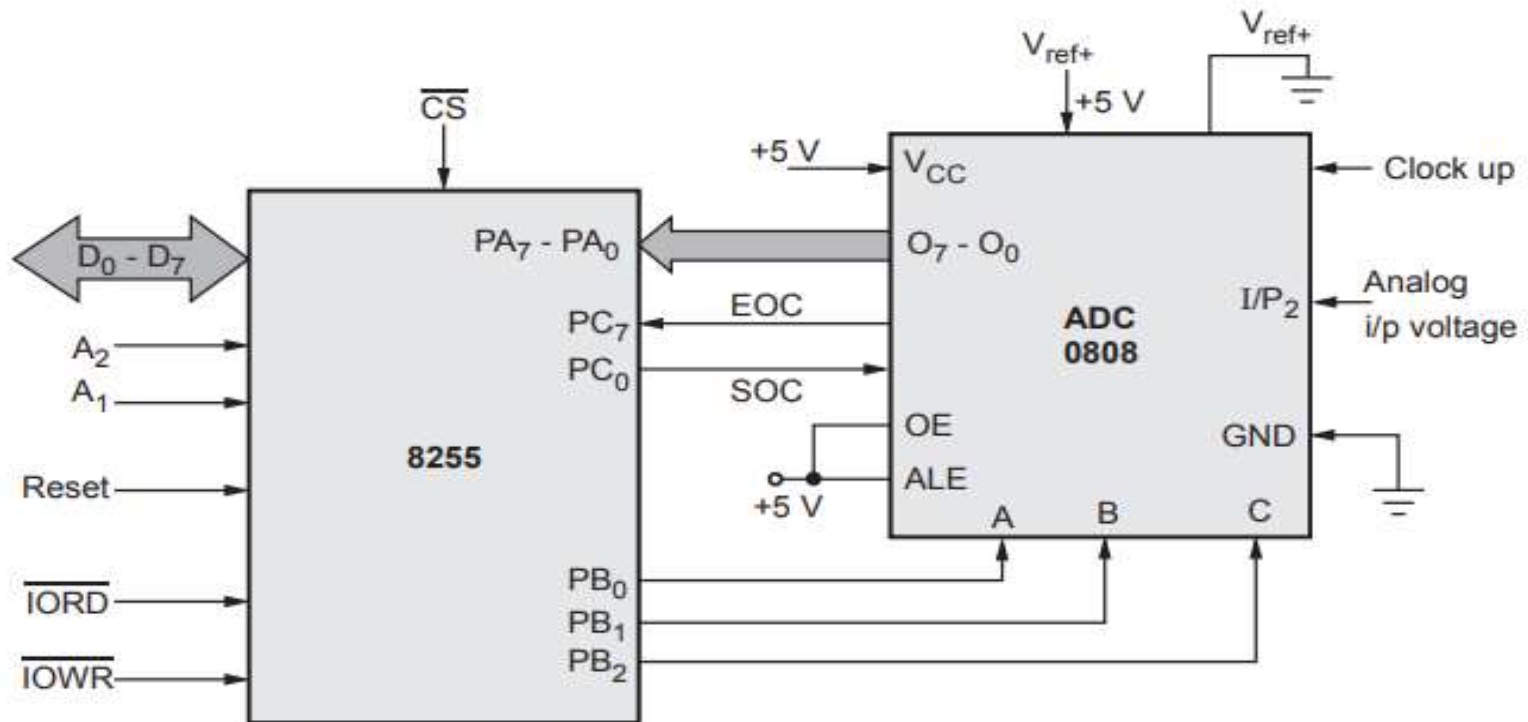

Fig. 3.7.5 Interfacing 0808 with 8086
- Fig. 3.7.5 shows typical interfacing circuit for ADC 0808 with microprocessor system.